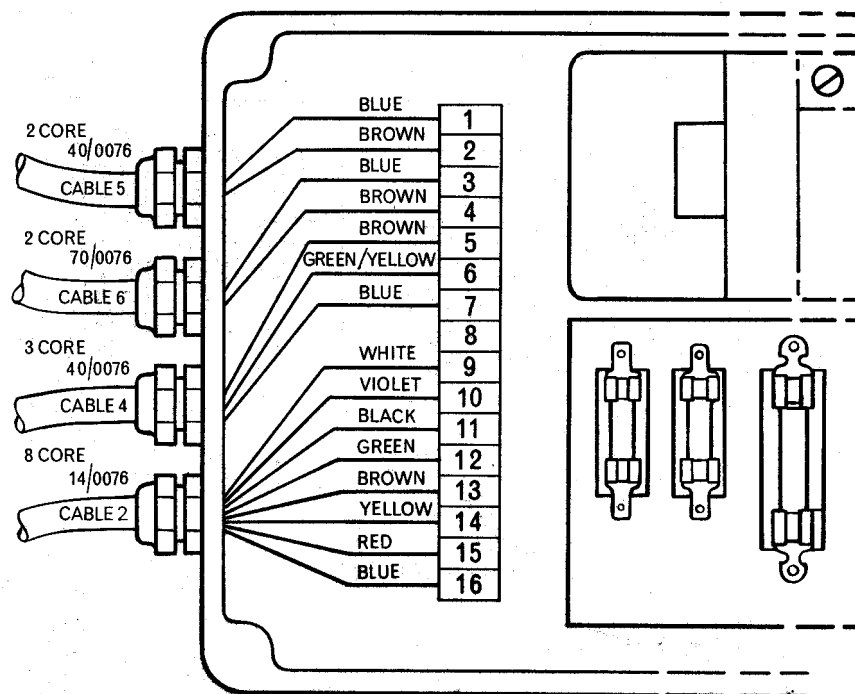
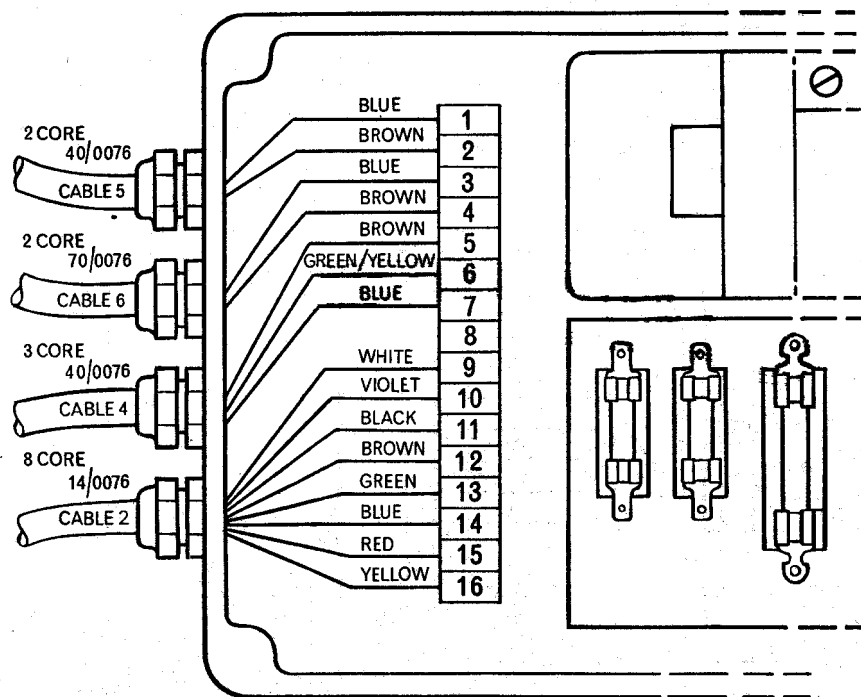

FIG. 8
FIG.9
- 2.6 **DRIVE UNIT.** This must be sited so that connection by roller chain to some rotary part of the steering gear is possible, with sufficient clearance around the steering gear shaft for the sprocket to be fitted. It can be orientated so that its output shaft is facing either forward or aft. Before placing the unit in position the gearbox should be filled with the lubricating oil (Castrol 'MAGNA') provided, by unscrewing the small plug on the end of the gearbox, and removing the filling plug fitted to the gearbox. Fill the gearbox until oil flows from the oil level plug, replace plugs. As supplied from the factory, the output shaft, viewed from its exposed end, rotates anticlockwise when applying starboard rudder. If reverse rotation of the output shaft is required the wiring connections should be as shown in Fig. 9. It should be noted that some parts of the steering gear shafting may rotate in a direction contrary to that of the ships wheel.
Figure 8 shows the order in which the lead-outs should be entered into the 16-way terminal block for standard rotation, Figure 9 for reverse rotation. If, however, a Rudder Feedback unit is to be fitted, connections should be as in Figure 8 for both Standard and Reverse rotation.
- 3.6 **REVERSE ROTATION OF DRIVE UNIT.** In some installations it may be necessary for the Drive Unit output shaft to rotate in the reverse direction. No. 2 Cable from the Control Unit to the Drive Unit is then connected in accordance with Figure 9. This alteration may necessitate the resetting of the limit switches. These are located under the cylindrical cover adjacent to the earth stud of the Drive Unit.
3. Remove the Violet, green, brown, yellow, red and blue leads colour for colour, into the terminals 10, 12, 13, 14, 15, and 16 on the gland side of the terminal block (see Fig. 8) but do not disturb the glands.